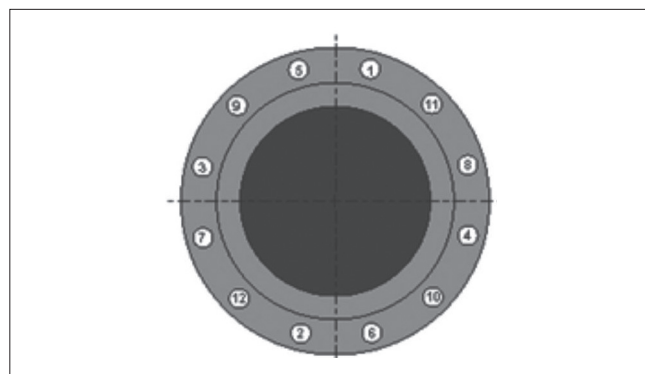

Fig. 8 Crosswise tightening flange bolts
- Turn the flange screws or bolts facing one another crosswise and tighten uniformly using a torque wrench according to operator's specification (see Figure 8).